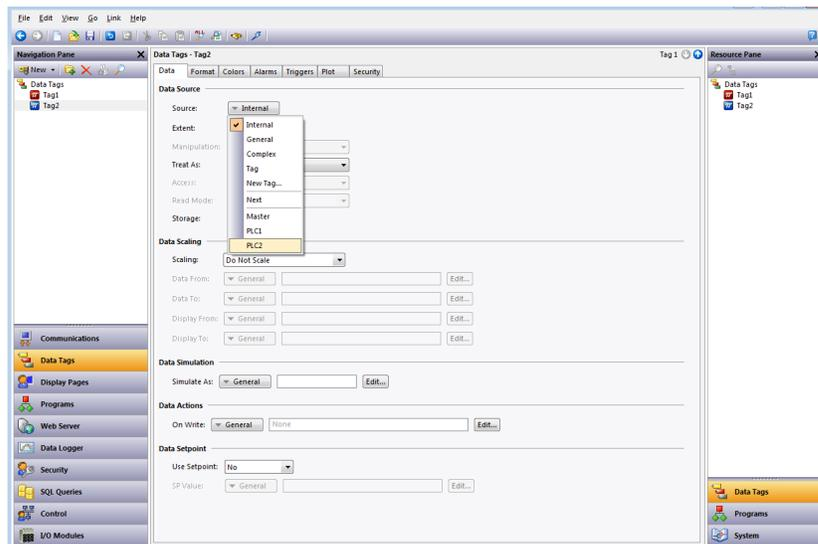

Figure 17.
4. Click *Internal* next to the *Source* parameter and select the ROC device; PLC2 in this example. The Select TLP popup appears, as shown in Figure 17.